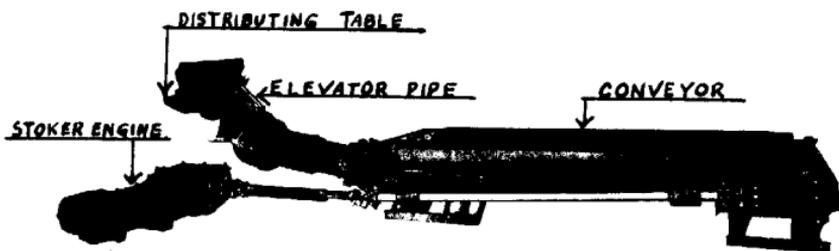

Fig. 30 Standard Type HT Stoker.
**"HT" Stoker**—The operation of the conveyor trough and driving engine of this stoker is similar to the Type "B" and Modified "B" stokers. However, both Type "B" stokers deliver coal inside the fire box, while the "HT" delivers coal at the fire door (Fig. 30, page 43). Adjustable vane in each side of the upper end of the elevator pipe is for controlling the amount of coal delivered to the back corners of the fire box. These vanes are adjusted by means of hand screws, and after obtaining the proper distribution, it should not be necessary to change their setting.